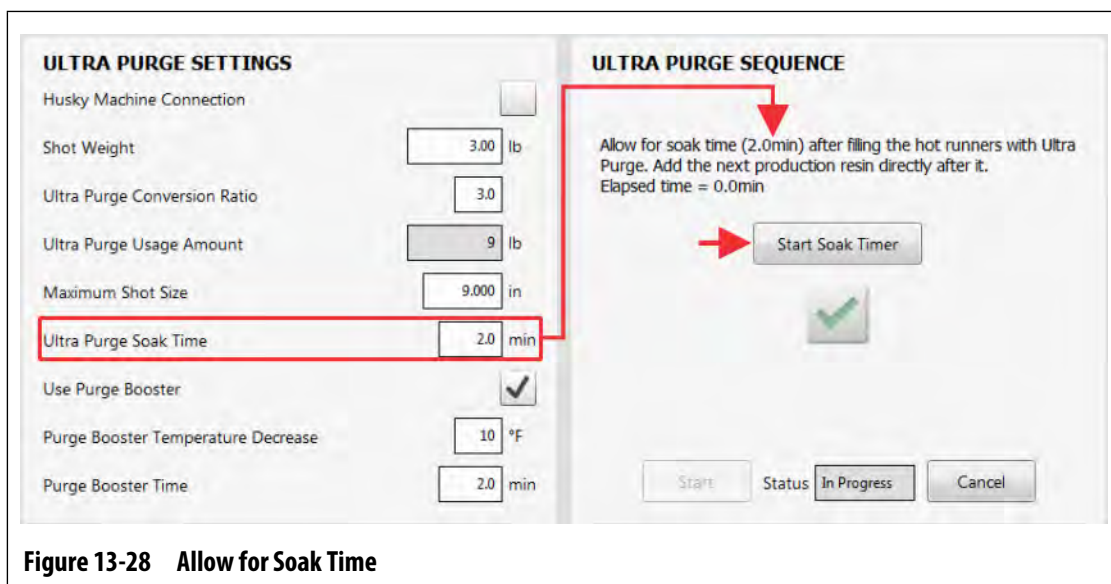

Figure 13-28 Allow for Soak Time
14. Touch the **Start Soak Timer** button and let the soak timer complete (Figure 13-28).